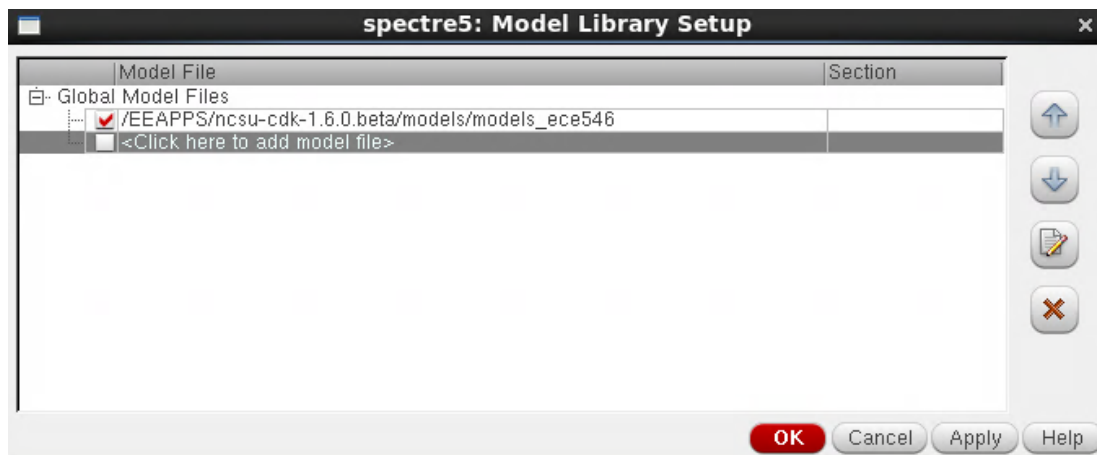

Figure 15. Window view for step 17.
17. On the ADE L window, choose '**Setup-> Model Libraries**', in '**Model Library Setup**' window add the pmos and nmos model files as shown in Figure 15.